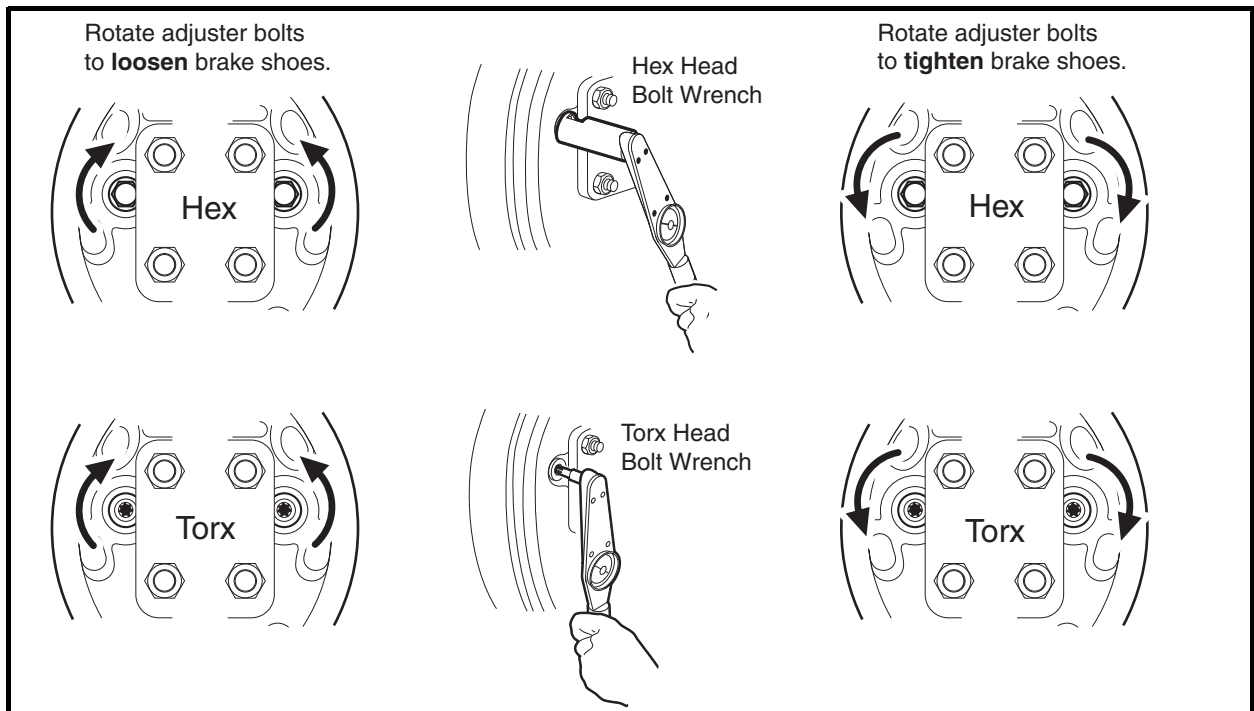

Figure 6-3 Loosen or Tighten Brake Adjusters
- 5.2. Use a torque wrench and a Torx #T-27 driver, or hydraulic brake adjuster (CC P/N 102169401), and gently rotate the adjuster bolts to increase the clearance between the brake shoe lining and the brake drum (**Figure 6-3, Page 6-7**). See following **NOTE**.
- 5.2. Use a torque wrench and a Torx #T-27 driver, or hydraulic brake adjuster (CC P/N 102169401), and gently rotate the adjuster bolts to increase the clearance between the brake shoe lining and the brake drum (**Figure 6-3, Page 6-7**). **See following NOTE.**